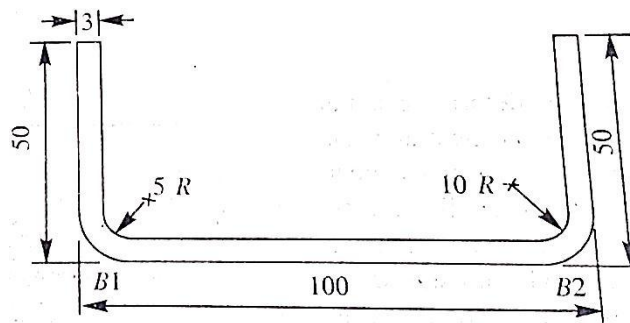

Figure 1
- (v) "C" shaped parts are produced from 3 mm thick C20 steel sheet as shown in figure 1. Find the length of sheet required for it. Both bend angles are 90° .